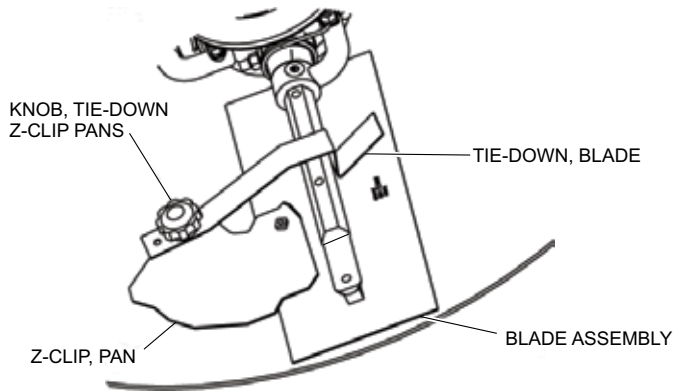

Figure 64. Z-Clip Finisher Pan Installation
Refer to Figure 64 when installing pans onto finisher blades.
3. Attach the blade tie-downs to the far side of the Z-Clip brackets with tie-down knobs as shown in Figure 64.